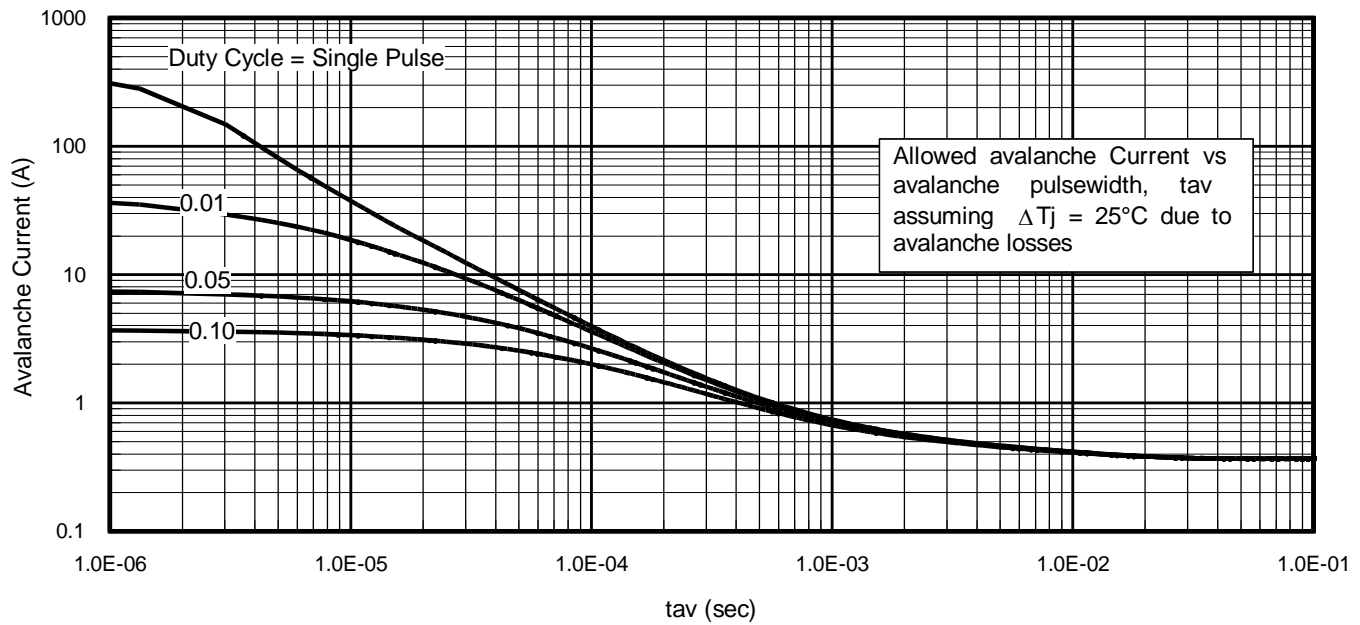

Fig 15. Typical Avalanche Current vs. Pulse width
**Notes on Repetitive Avalanche Curves , Figures 15, 16:
7. ΔT = Allowable rise in junction temperature, not to exceed T_{jmax} (assumed as 25°C in Figure 15, 16).